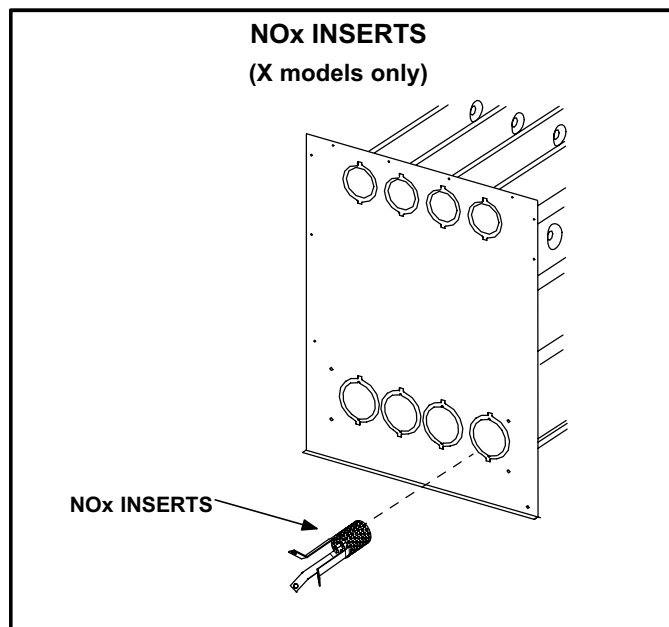

FIGURE 32
- 7 - **NOx units only** - remove the three screws that attach the NOx insert to the corbel at the entrance to each heat exchanger section. Carefully remove the NOx insert from each section. See figure 32.
- 15- **NOx Units** - Reattach the NOx inserts to the corbels at the entrance to each heat exchanger opening. See figure 32.